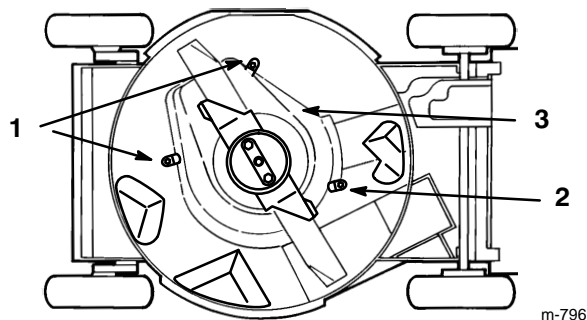

Figure 32
5. Loosen tabs securing BBC shield to deck by loosening nuts or bolts on tabs (Fig. 32). Rotate tabs 180° to move them out of the way.